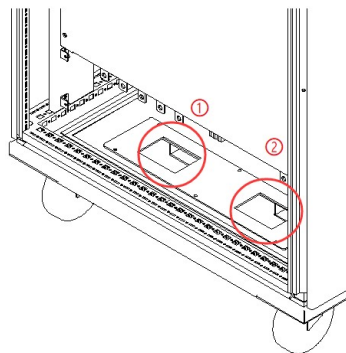

Figure 2-3 Entrance hole
Remove the bottom baffle (Figure 2-2), the user can connect the ground protection wires PE, N, three-phase lines of grid side A, B and C, and the positive and negative output lines of DC side into the cabinet through the AC side entrance hole ① and the DC side entrance hole ② ( Figure 2-3).